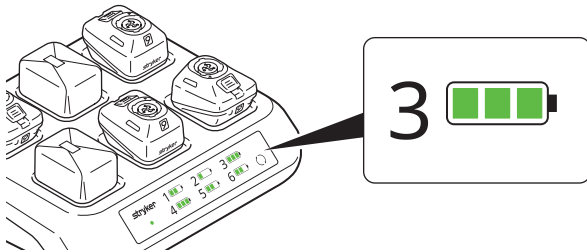

Figure 7 – Charge complete
7. When the battery is fully charged, the battery status indicator displays 3 solid green bars (Figure 7).